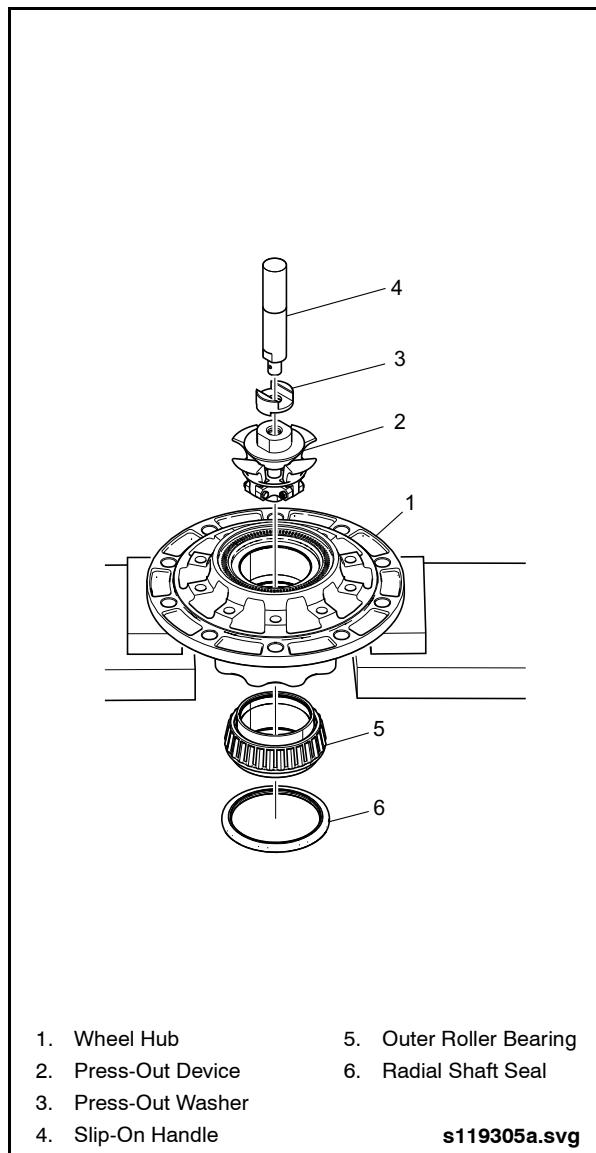

Fig. 2-20: Removing Outer Tapered Roller Bearing
2. Insert the Slip-On Handle (Item 14 from special tools list) with Press-Out Adapter (Item 16 from special tools list) into the press-out device. See “Fig. 2-20: Removing Outer Tapered Roller Bearing” on page 21.